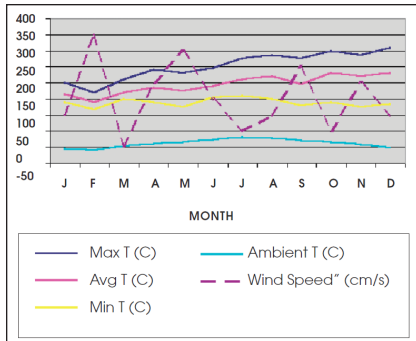

Figure 1
Figure 1 (above left) illustrates this point. These are the area temperature statistics taken once a month over the course of the year of an industrial refractory lined process vessel. In order to understand the fluctuations in the surface temperatures, the wind speed has been lotted on the same graph as a dashed line. The vertical (Y) axis has been scaled so that it represents both temperature (in degrees Celsius) for the solid graph lines and wind speed (in centimeters per second) represented by the dashed line. Notice the direct correlation between the inspections times that had a high velocity and lower surface temperatures. The value of long-term trending and statistical analysis of surface temperature becomes quite clear. Only a thermographic instrument is capable of gathering the type of large area-based statistics of surface temperature necessary for such an analysis.